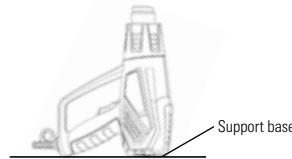

FIGURE 7.1 - SUPPORT BASE
5. With the blower turned off, when placing it (Figure 7.1) on a surface between operations, keep it upright, protecting the resistance from any wind currents that may cause thermal shock.